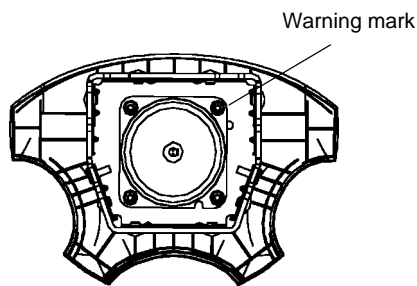

Fig. 2.
- (2) Driver airbag assembly, see Fig. 2.